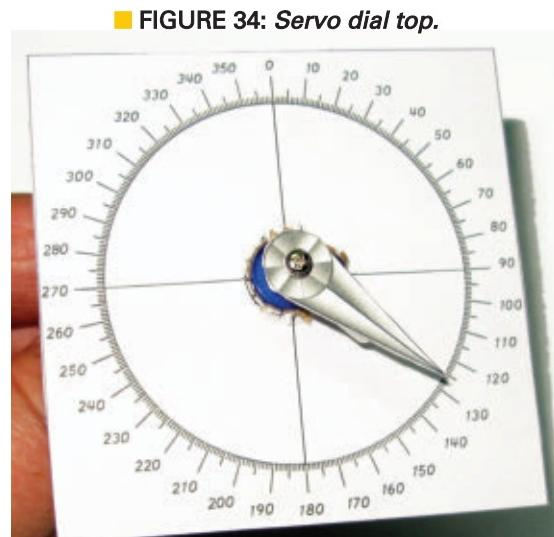

FIGURE 34: Servo dial top.
- Look at **Figures 34, 35, 36, and 37** to get a feel for how to cut out the holes to mount the compass and the dial.
- Use scissors again to make a small hole in the base of the dial, then use the smaller of the screws shown in **Figure 34** to attach the dial to the mini servo.